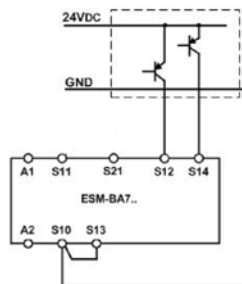
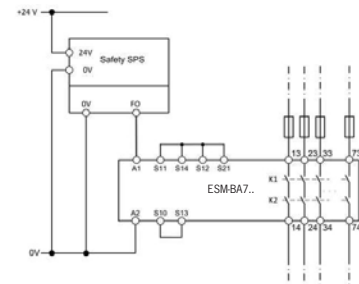

Fig. 9: Dual-channel emergency stop circuit with pnp semiconductor outputs/OSSD outputs with short circuit detection (category 4, up to PL e).
Fig. 10: Connection to fail-safe control system (cat. 4, up to PL e)
- For applications according to Fig. 9 and Fig. 10, the following must be observed: